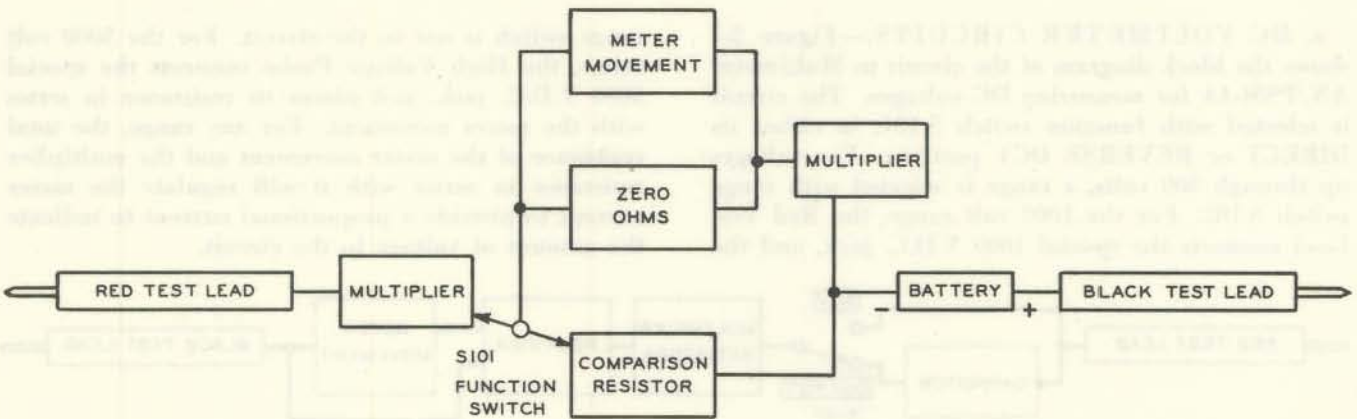

Figure 2-4. Functional Block Diagram of Ohmmeter Circuits.
d. OHMMETER CIRCUITS. (See figure 2-4).— The ohmmeter circuit and its ranges are selected with function switch S-101. Its positions are Rx1, Rx10, Rx100, Rx1000, and Rx10000. An internal battery furnishes the power for all resistance measurements. For each range, the circuit is arranged so the meter will indicate zero ohms, and full scale deflection,